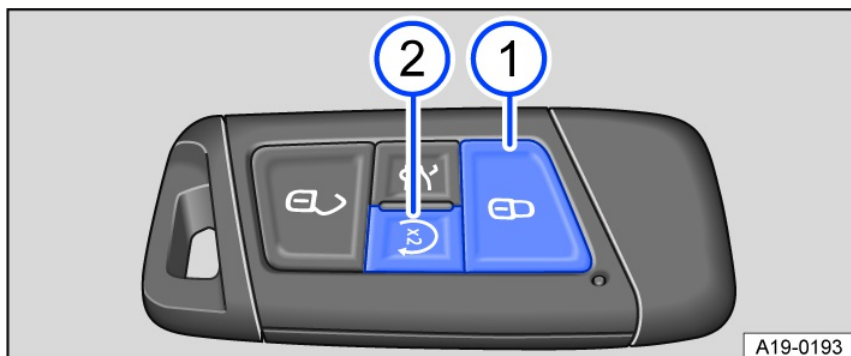

Fig. 88 Vehicle key with remote start relay function.
1. Press the button  **fig. 88 ①** once. All turn signals will flash.
2. Press the button  **fig. 88 ②** twice in a row. All turn signals will flash. During remote start, the parking light turns on.
1. Press the  button **fig. 88 ②** in the vehicle key to switch off the engine.